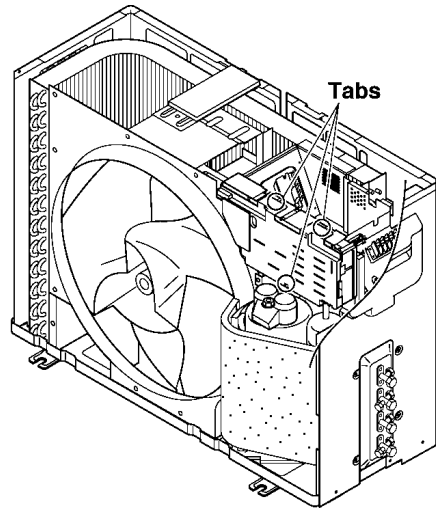

Fig. 23
4. Remove the control board cover (Front). (Three tabs) (Fig.23)
3. Remove the control board cover (Front). (Fig.23)